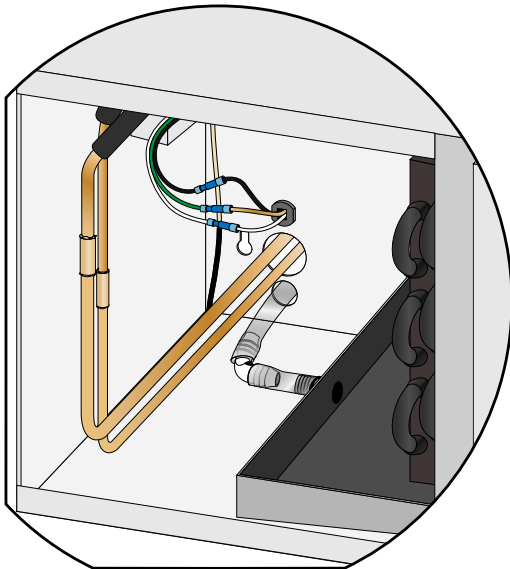
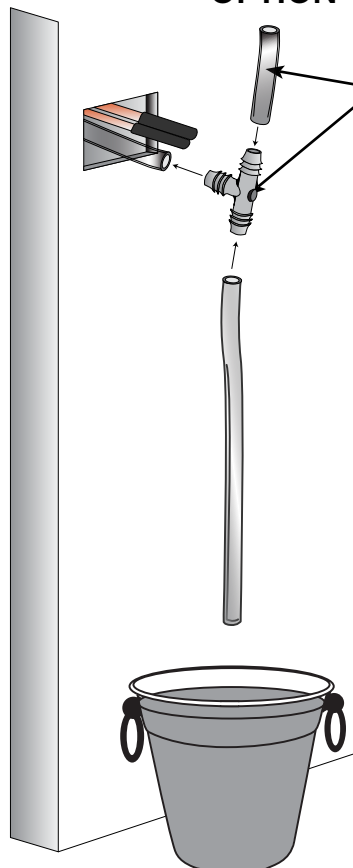

Figure 1
Figure 2
1. Depending on your desired installation, use the barbed elbow as shown in **Figure 1** or **Figure 2** to route the Drain Line from the Drain Pan to the exterior of the unit.
NOTE: Using the barbed tee as shown in **Figure 2** and **Figure 3** is recommended.